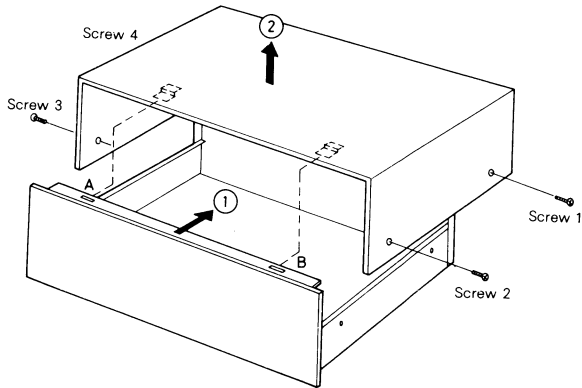

Fig. 1
- (1) Remove four (4) cabinet mounting screws (side) Nos 1~4, as shown in fig. 1.
- (2) Remove metal fitting of cabinet from holes A and B of front panel in arrow direction ①, as shown in fig. 1.
- (3) Remove cabinet from chassis in arrow direction ②, as shown in fig. 1.
- (4) To reassemble, reverse above procedure.